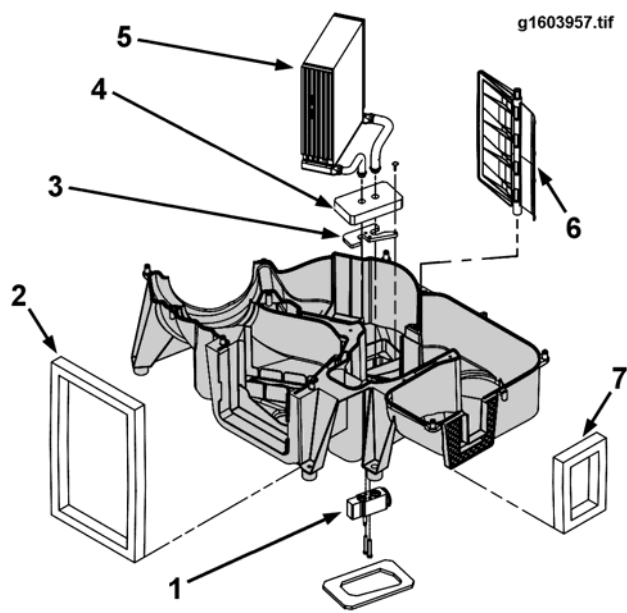

Figure 57 Internal Components of the Rear HVAC Unit
13. Remove the blend door (6, Figure 57).
1. From inside the sleeper, temporarily install the blend door into the bottom housing to determine how the door is to be oriented (Figure 57).
18. Remove 1 screw securing the expansion valve upper lock plate to the bottom housing (Figure 57).
1. From inside the sleeper, install the evaporator core into the bottom housing (Figure 57).